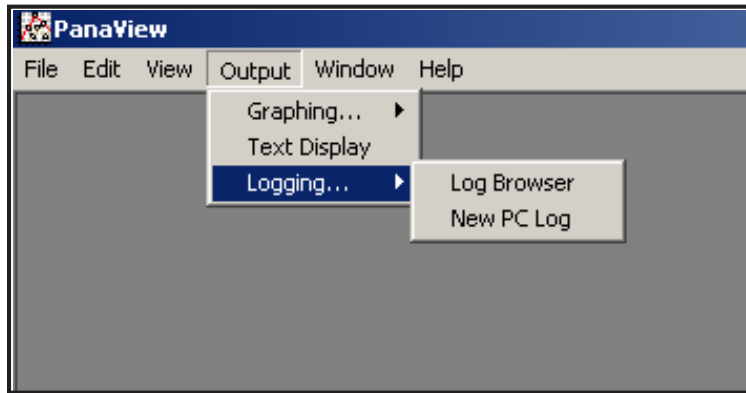

Figure 24: Log Browser in the Logging Option
1. From PanaView, click on the *Logging* option in the *Output* menu. Then click on the *Log Browser* option, as shown in Figure 24.